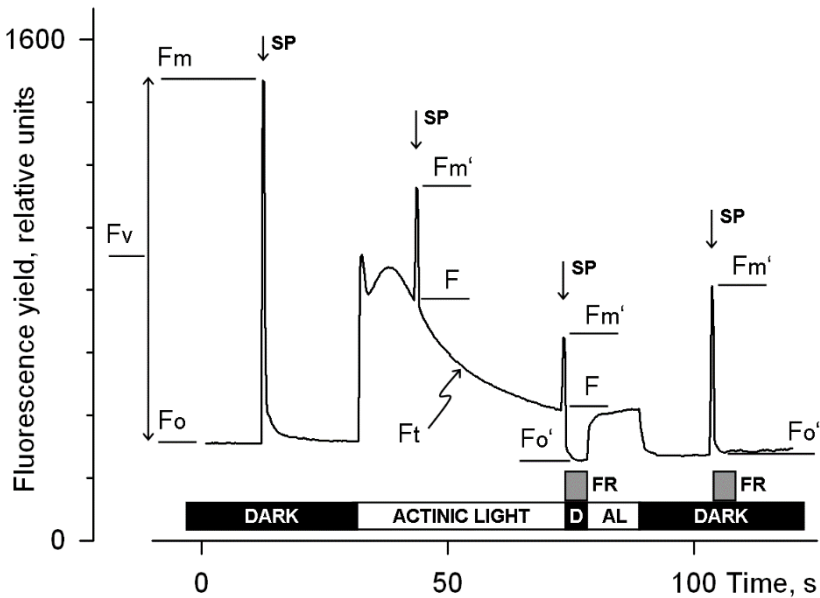

Fig. 13: Measurements for Saturation Pulse Analysis. AL, Actinic Light; D, dark; SP, Saturation Pulse; FR, Far red illumination.
Usually, five different levels of modulated fluorescence are acquired by PAM fluorometers. Two of these levels ( $F_o$  and  $F_m$ ) must be measured with the dark-acclimated sample. The three other levels ( $F_o'$ ,  $F$ , and  $F_m'$ ) are measured with the actinic light-exposed sample or in a dark period following this light treatment (see Fig. 13, page 67). Some parameters of saturation pulse analysis require fluorescence measurement of the same sample in both the dark-acclimated and light-exposed state.
- $F_o'$  Minimum fluorescence level of illuminated sample. The  $F_o'$  is lowered relative to  $F_o$  by non-photochemical quenching. The measuring routine for  $F_o'$  determines the  $F_o'$  level during a dark interval following a Saturation Pulse. In this dark interval, far red light is applied which selectively drives PS I. As a consequence, electrons are removed from the intersystem electron transport chain and opening of PS II reaction centers is efficiently accelerated (see Fig. 13, page 67, time point 75 s). Ideally, far red opens PS II in less than 5 s and it is often assumed that during this short interval light-driven energization of the photosynthetic membrane decays very little.